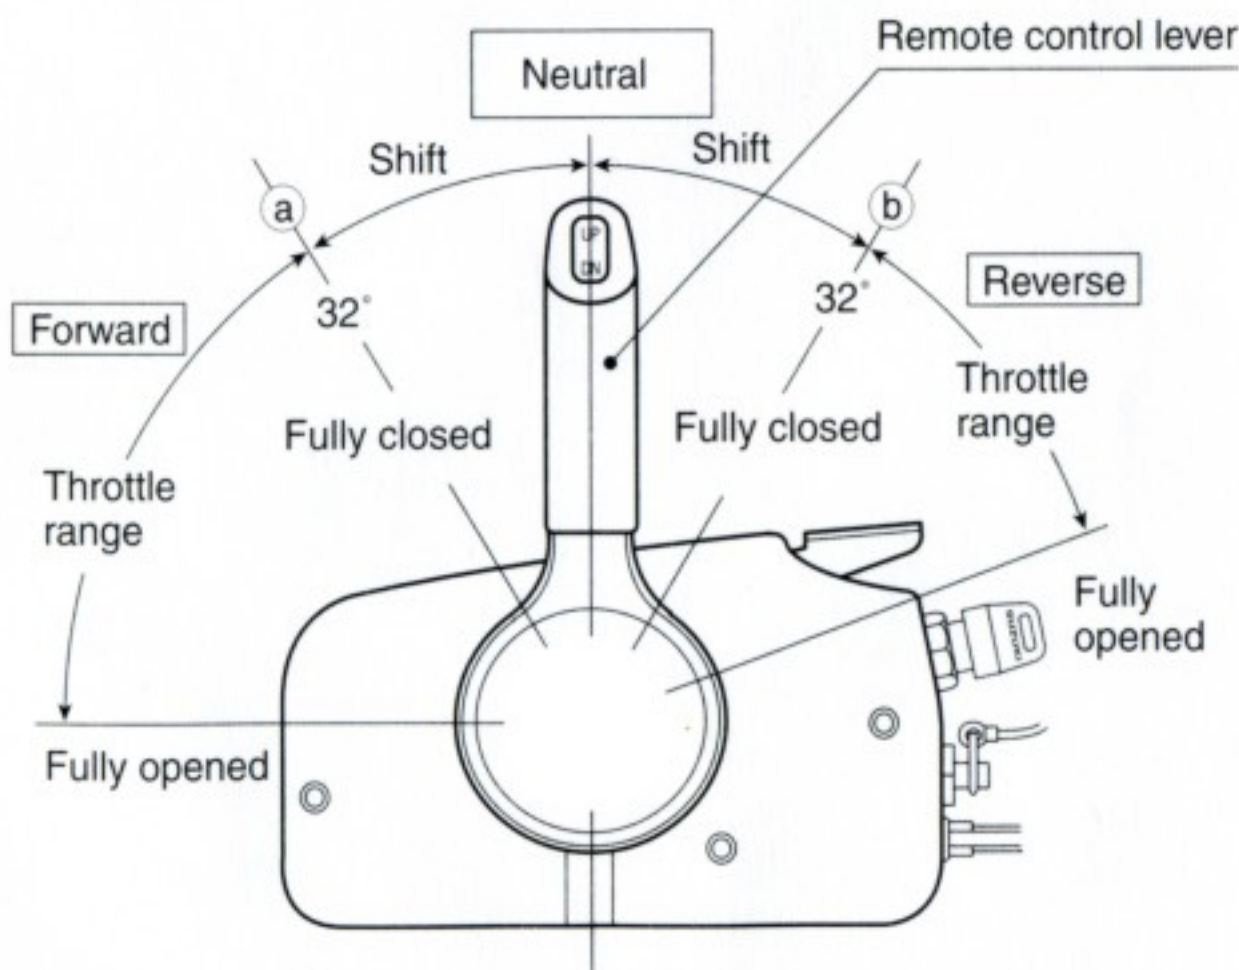

Fig. 19
- While turning the propeller, move the remote control lever from Neutral to Forward and to Reverse. At this time, check that the lever feels detent with a click sound at positions ① and ②, each at approximately 32 degrees, and the clutch on engine side shifts into Forward and Reverse respectively. (See Fig. 19.)